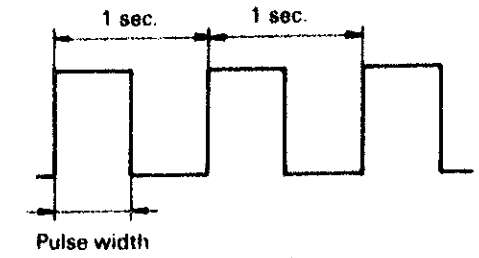

Fig. 1
- With the former quartz circuit, the pulse width supplied from the electric circuit to step motor is constant (Fig. 1).